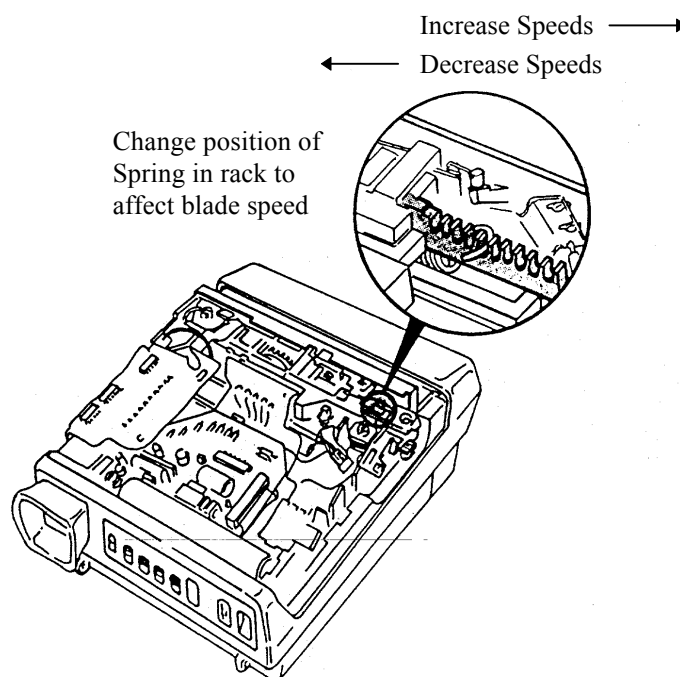

Figure 3-13 Hybrid Test Adjustment (Opening Blade Spring tension adjustment)
2. If the Hybrid (ZLS/Blade Speed) Test readings are too low, increase the tension on the Opening Blade Spring by moving it one notch to the right (when facing the back of the Camera), See Figure 3-13.
3. If the Hybrid Test readings are too high, decrease the tension on the Opening Blade Spring by moving it one notch to the left (when facing the back of the camera), See Figure 3-13.
2. Using tweezers, carefully lift the upper end of the Opening Blade Spring out of its notch in the Shutter Base Block (see Figure 3-13).